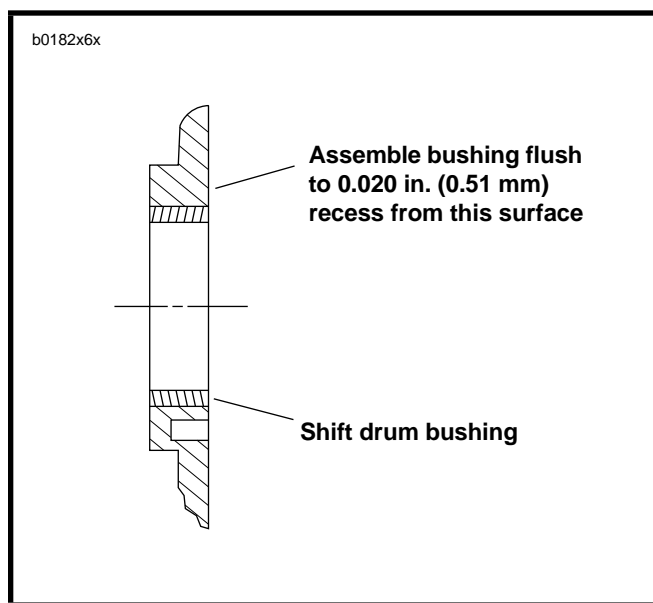

Figure 6-41. Shift Drum Bushing Assembly
2. See Figure 6-41. Lay bushing squarely over bore. Locate socket or pipe that is slightly larger than diameter of bushing. Place socket or pipe on bushing and press into bore until bushing is flush with or 0.020 in. (0.51 mm) below inside surface. If using a pressing tool larger than diameter of bushing, the pressing tool will bottom against door when bushing is flush with top surface.